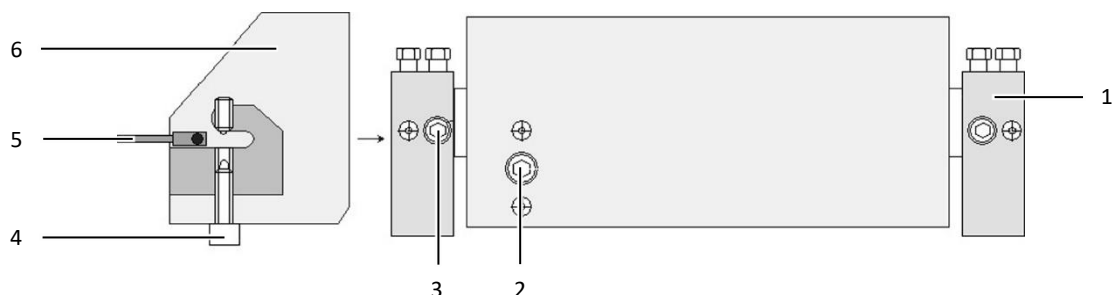
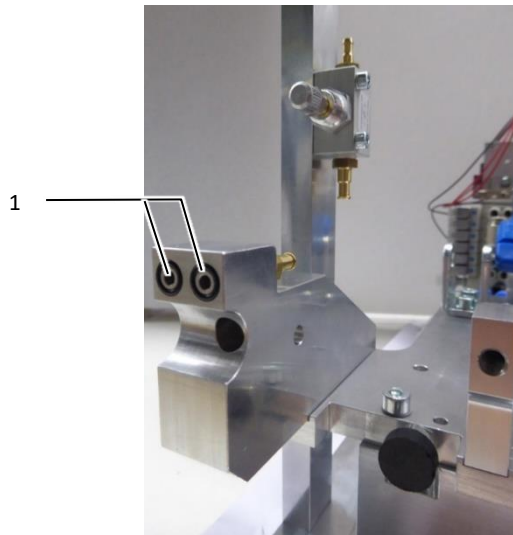

Fig. 11: Tool unit starting position
Fig. 12: O-rings at the fixing part
- Tool unit (fig. 11, item 6) in starting position.
- Loosen the clamping screw (fig. 11, item 2) by approx. 5 turns.
- Loosen the fixing screws (fig. 11, item 3) and remove the tool unit.
- Check the position of the 4 O-rings (fig. 12, item 1) on the fixing parts (fig. 11, item 1).